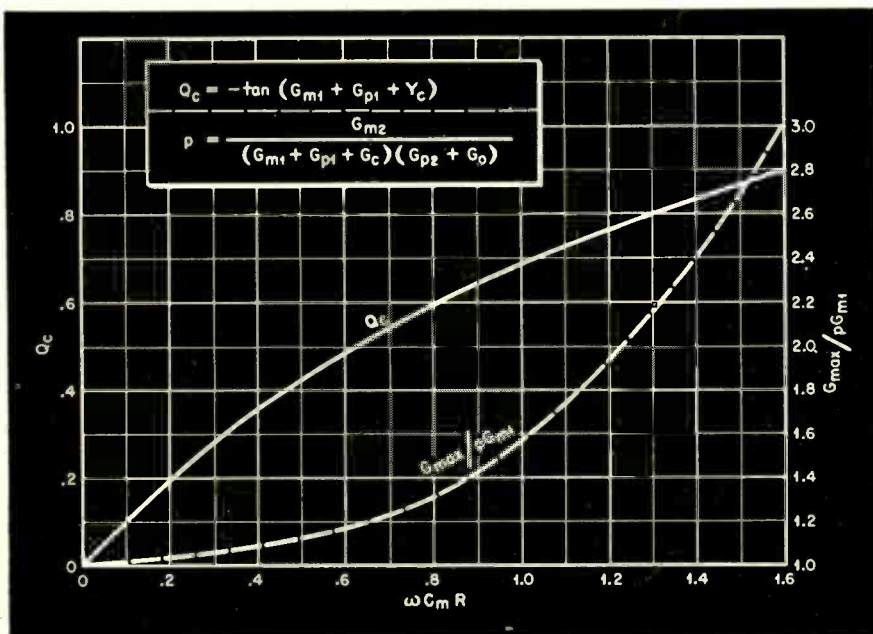

Fig. 5. Plots of equations (17) and (18)
Equations (17) and (18) are plotted in Fig. 5. These plots are helpful in designing a circuit of this kind and in anticipating its performance. The procedure is as follows:
2)  $Q_o$  is determined by using the plot in Fig. 5.
4) The overall gain is evaluated with the help of Fig. 5. This value is available only when the plate load is tuned to maximum output; by doing this, the condition  $Q_c = Q_o$  is automatically fulfilled.